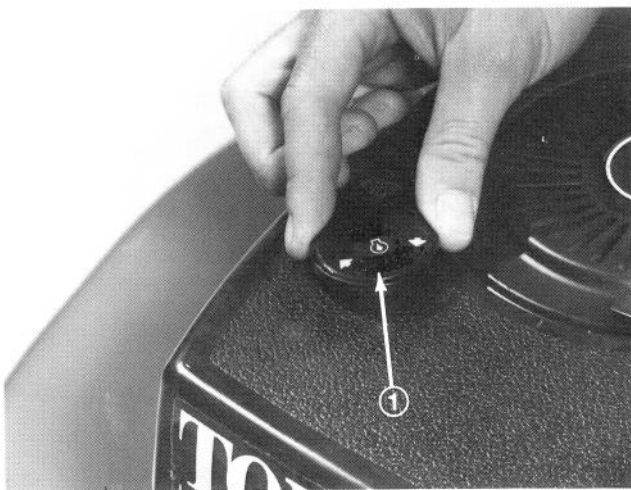

Figure 3
2. Remove the dipstick (Fig. 3).